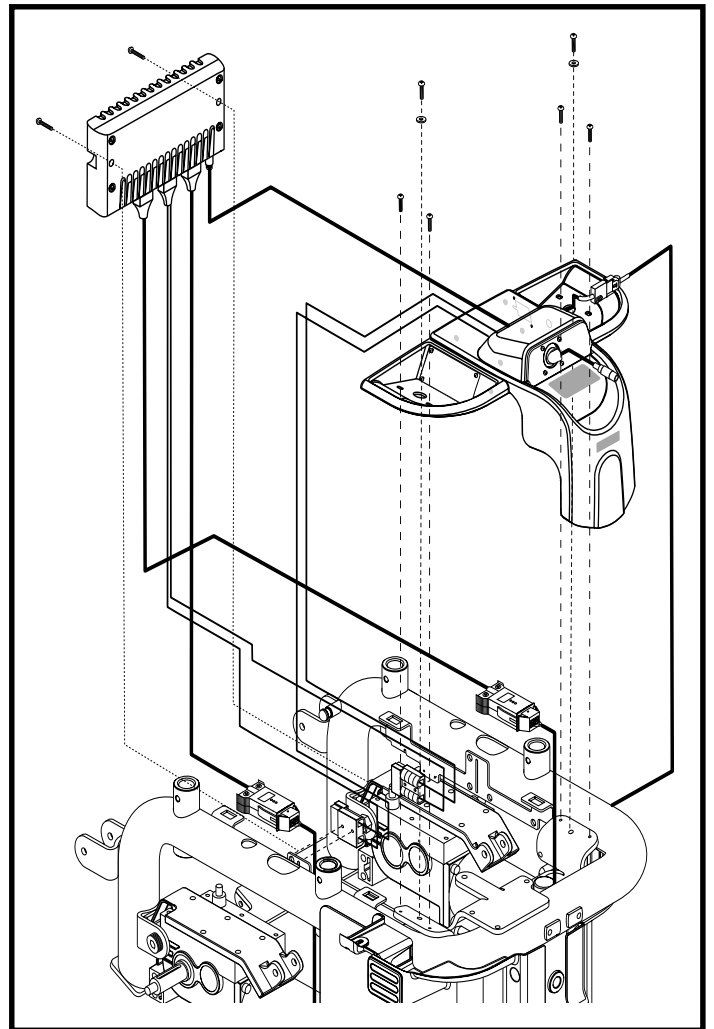

Figure 12. Jazzy 1121 Electronics Tray Disassembly/Assembly
4. Unfasten the electronics tray from the frame and lift it up. **See figure 12.**
16. Unfasten the electronics tray from the frame and lift it up. **See figure 12.**
26. Unfasten the electronics tray from the frame and lift it up. **See figure 12.**